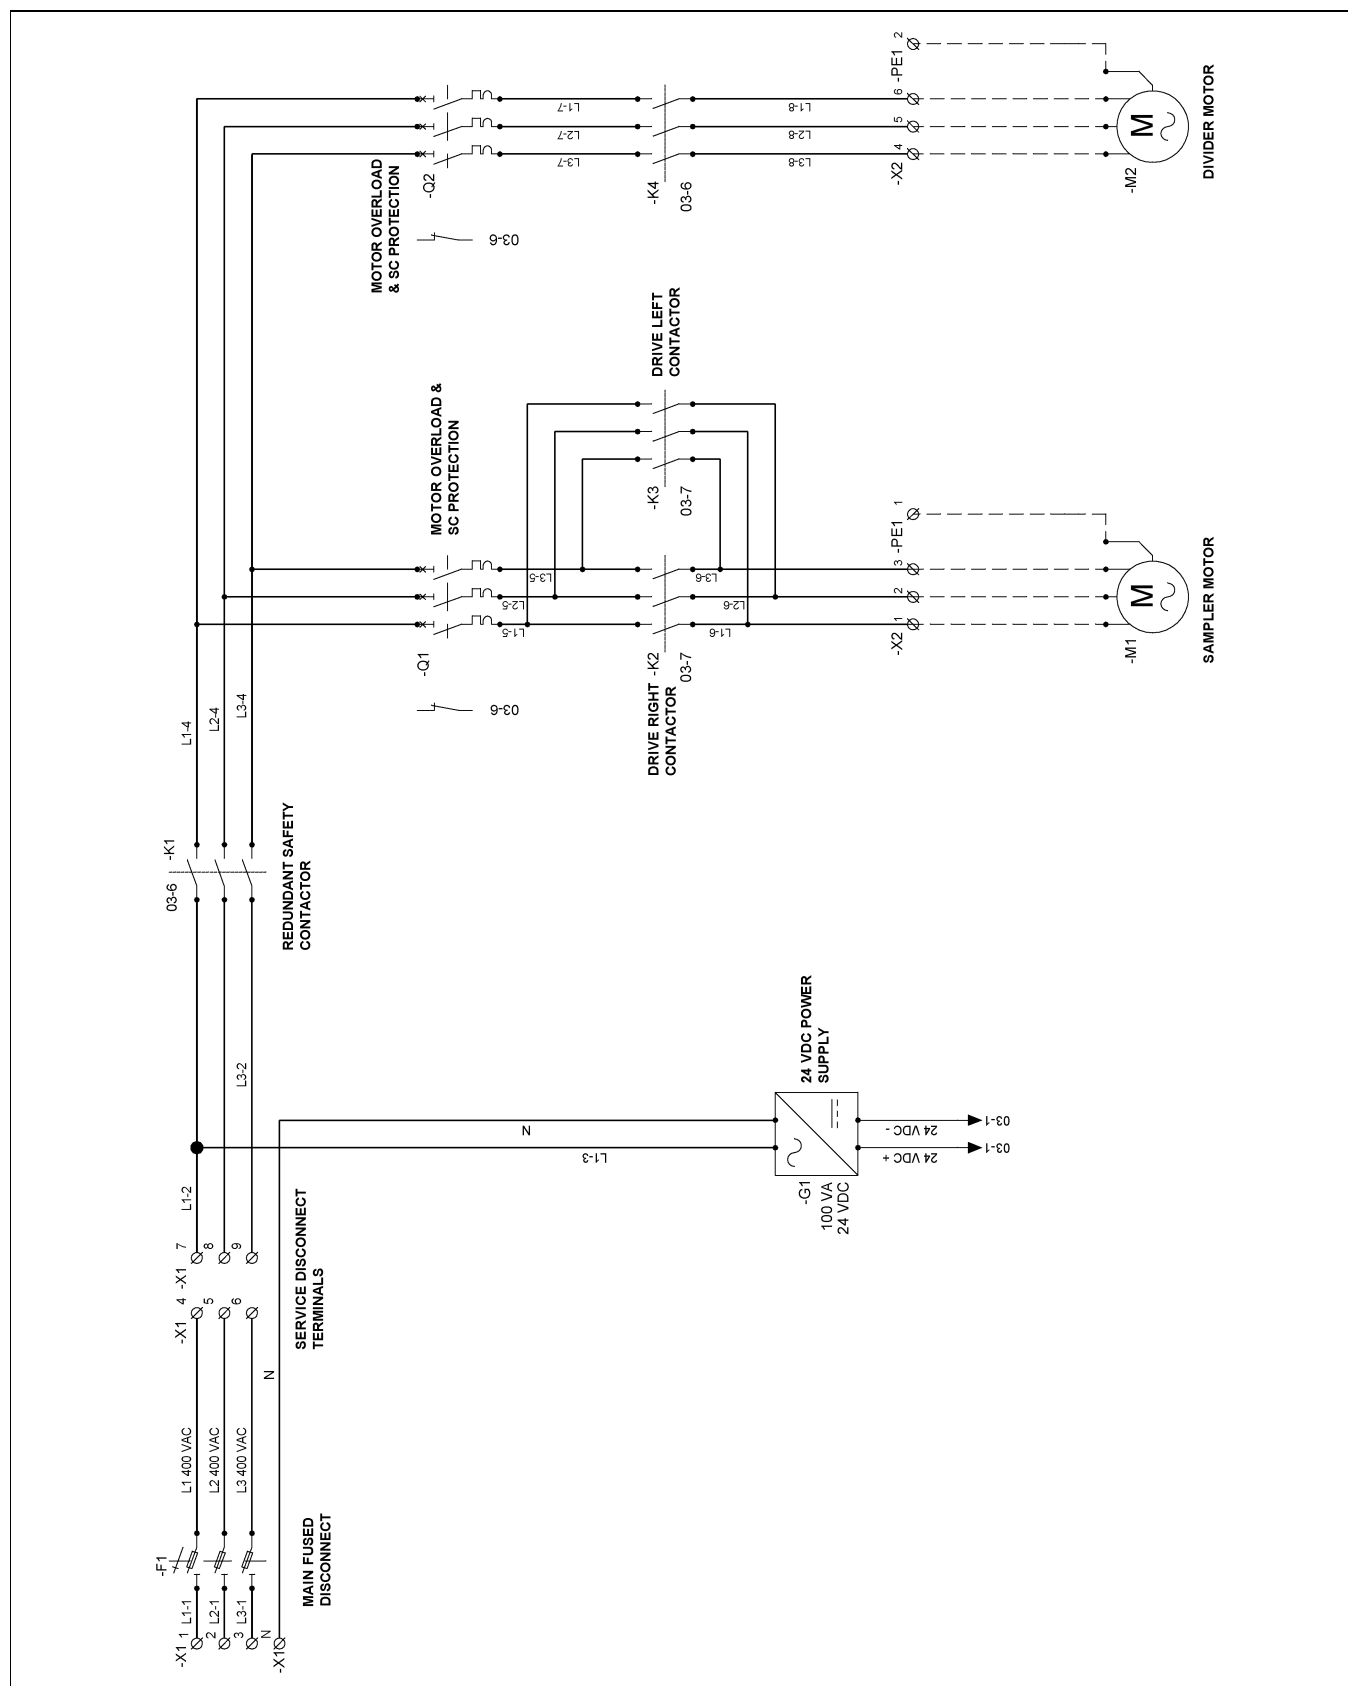
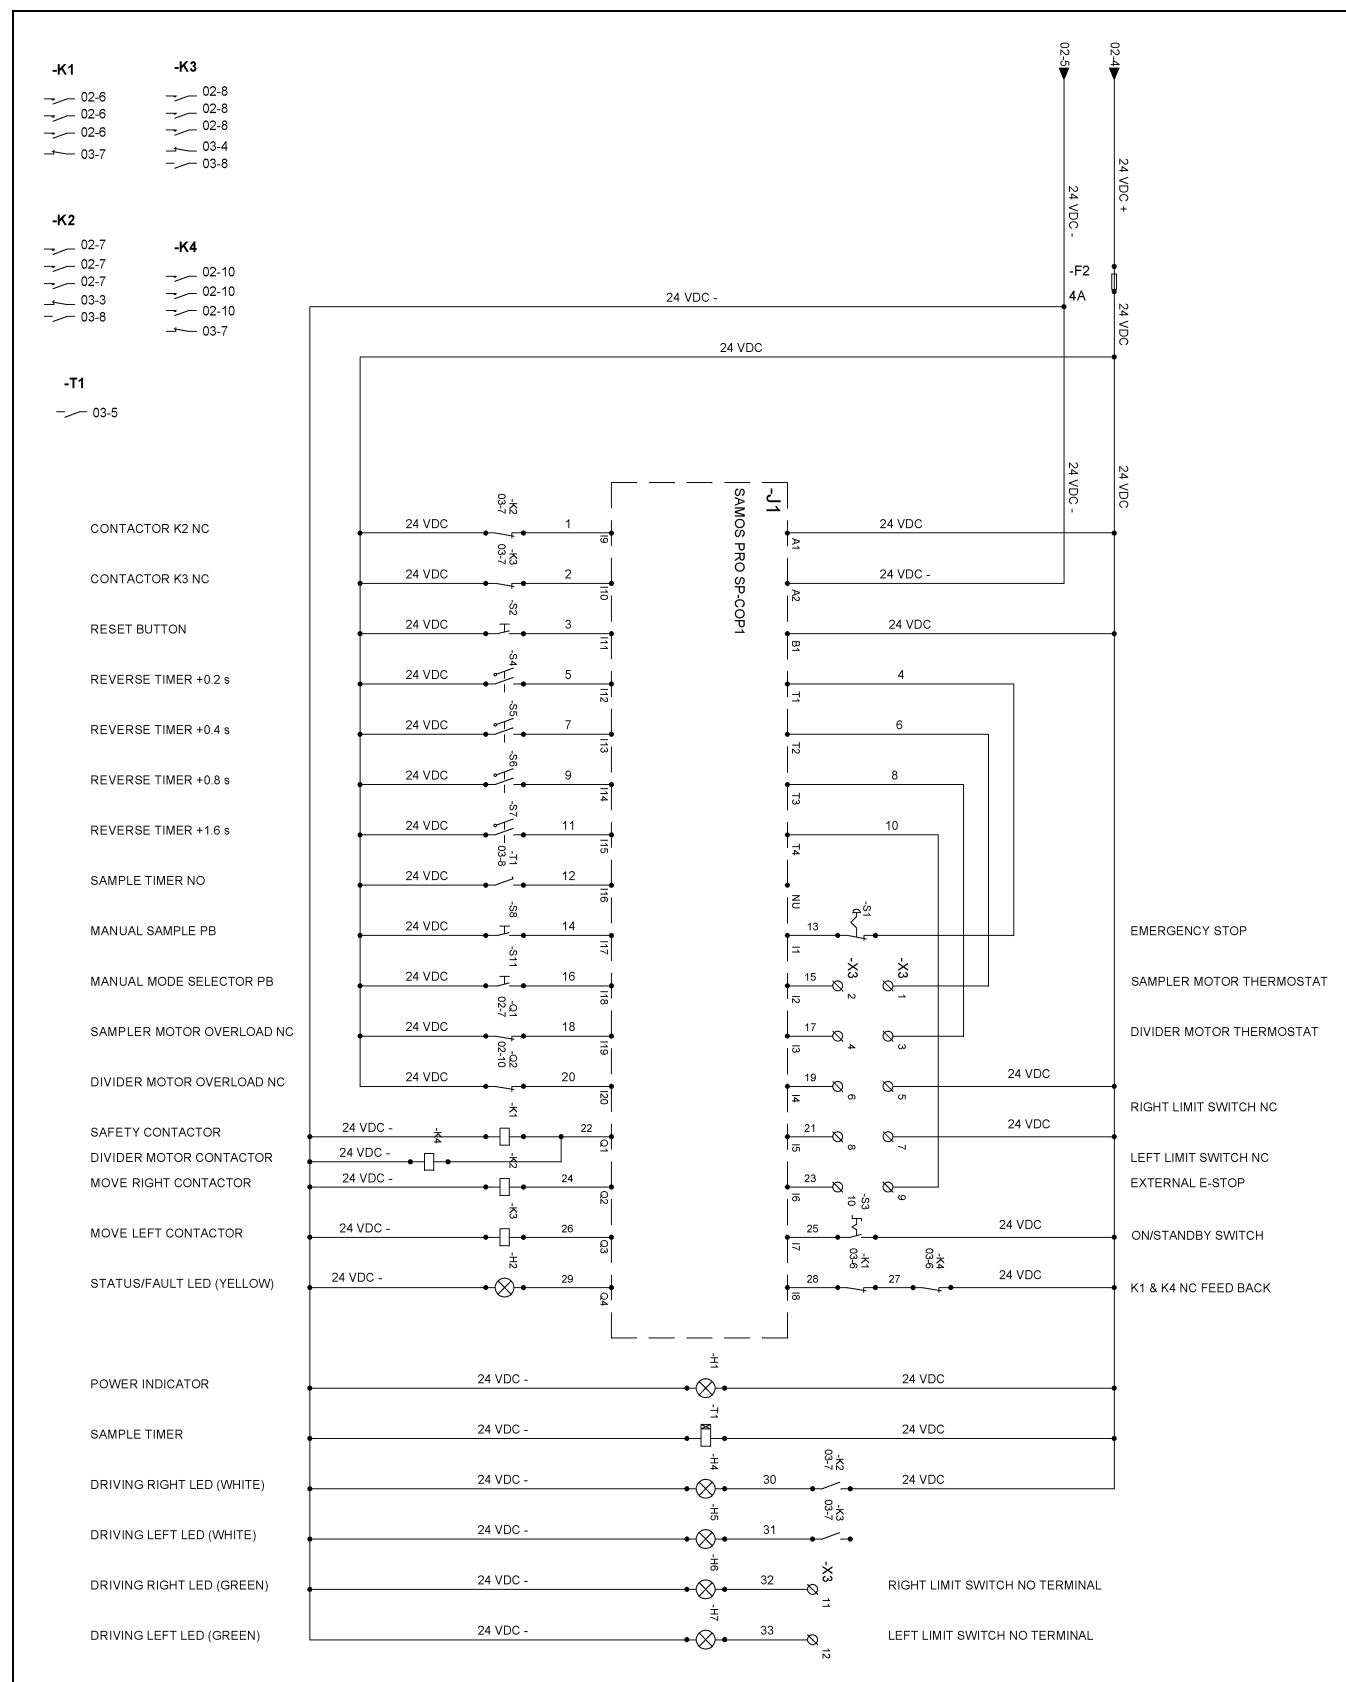

Figure 7B Motor Connections
Figure 7C Control Connections
3. When making connections to the sampler and divider components, refer to the certified drawing provided with your controls (See Figure 7B on Page 30, Figure 7C on Page 31 and Table below).